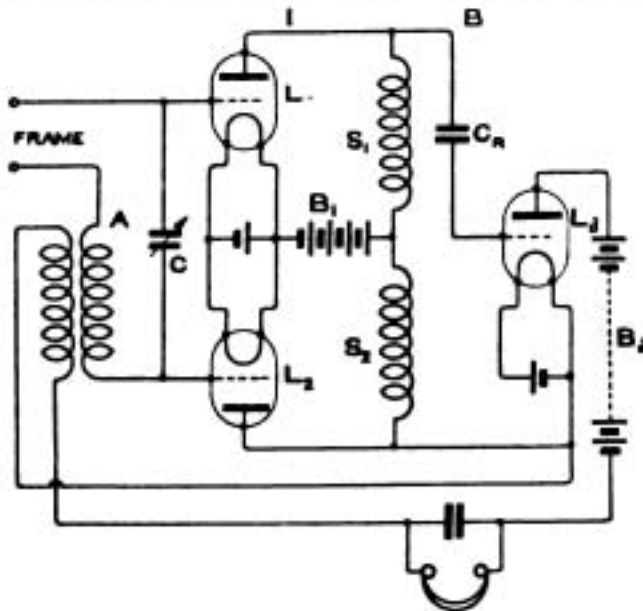

Fig. 1.
(2) We should suggest basket coils, say 4" in diameter, wound with No. 32, two or three being used for each of  $S_1$  and  $S_2$ .
(3) C 0.003 mfd. and Cr 0.0002 mfd. should be suitable values. The latter should be resistance shunted if the valves are hard.
(4) As this set is of unusual type and general interest, we reproduce your diagram Fig. 1.